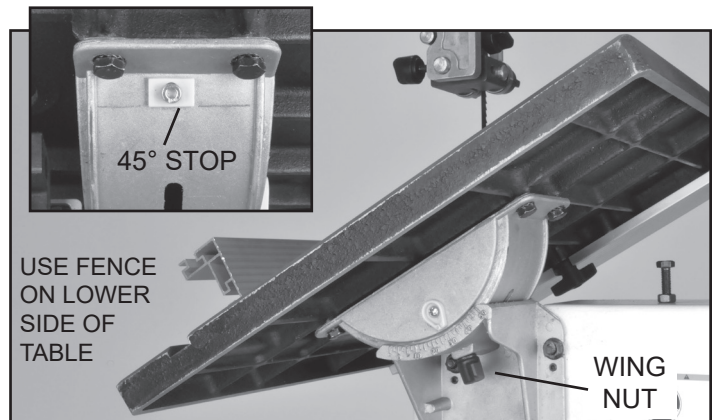

FIGURE 15
1. To tilt the table, loosen the Wing Nut (#113) on the table trunnion. Set the table to the required angle and then tighten the wing nut to secure the table. FIG 15.
The trunnion features a Stop (#118) that adjusts to set the table angle at a precise 45° angle. FIG. 15 Inset.